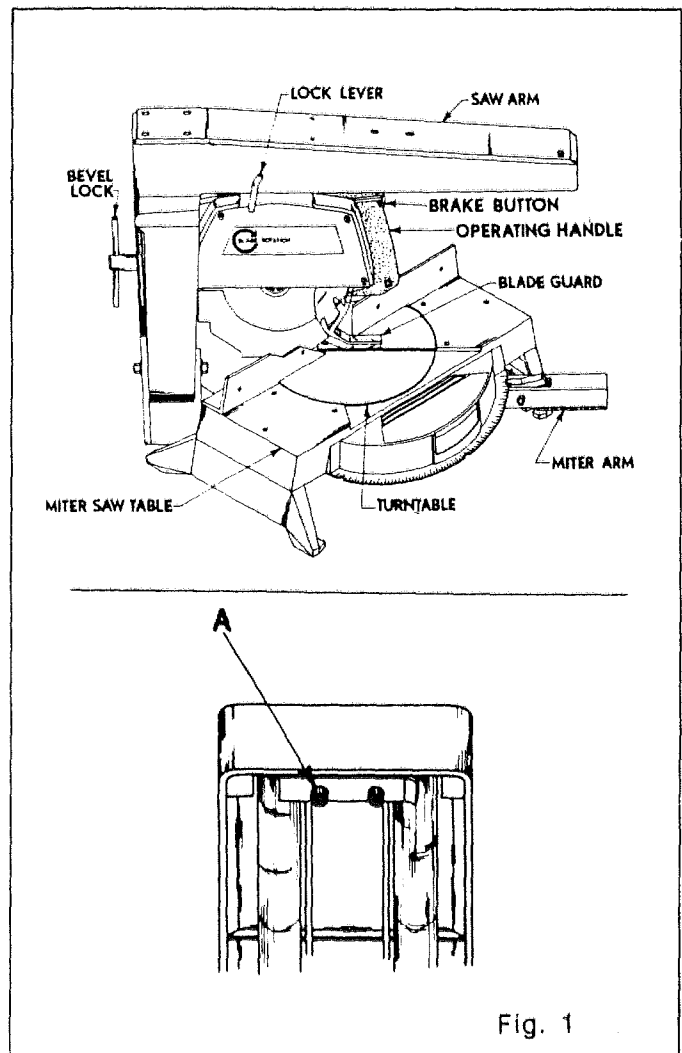

Fig. 1
1. Remove the miter saw from the carton by lifting it by the miter saw table. See Figure 1. **CAUTION:** When removing the miter saw do not lift by the operating handle or the saw arm as this may cause misalignment.
3. Your miter saw is shipped with the saw head locked both in the rear position and the 45° miter setting. To release the saw head, unlock by turning the lock lever counter-clockwise. This will allow the saw head to move forward for operating positions. Move the saw head through its entire movement, front to rear, several times to check for binding. Should saw head bind in its movement, make adjustment as follows: See Fig. 1